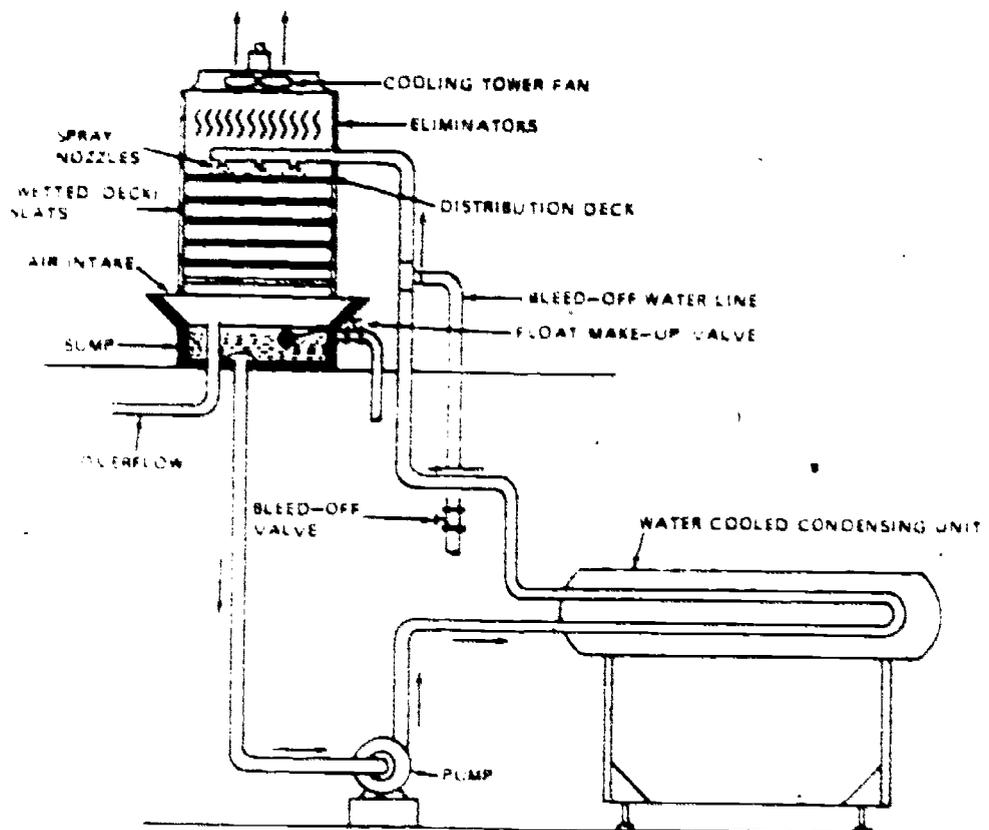

Figure 15. Schematic Diagram of a Mechanical Draft Cooling Tower
**FORCED DRAFT TOWERS.** Forced draft towers are equipped with solid metal panels on all four sides which are mounted on structural steel members with openings for flow of inlet and discharge air. Fans are located either at the inlet or at the outlet of spray chamber depending on manufacturer's particular design. Normally, forced draft towers are used on large refrigerating systems and are installed either indoors or outdoors in any convenient space. Indoor installations are near the outside wall to reduce duct work to and from the outside. Sizes of the ducts are never smaller than the openings of the tower. Restrictions in ducts and louvers, and sharp or square bends are avoided since they reduce the airflow. Forced draft towers are selected for the same wet bulb temperature. The amount of water circulated through the tower spray system is at the rate of 3 gallons per minute per ton of refrigeration required (see figure 15).
The spray nozzles are used to distribute and atomize the condenser water to the top of the tower. The distribution deck further distributes the water over the wetted deck. The wetted deck made of redwood or cypress slats slows the water flow aiding in evaporative cooling of the water. Louvers are used to direct the airflow through the tower. The cool water falls into the collection pan or sump. An overflow pipe is installed in the sump to reduce water spillage and can be used for bleed-off control. The bleed-off line may also be installed on the water line from the condenser to the spray nozzles. The float valve is installed in the water makeup line to start and stop the flow of makeup water. The water circulating pump supplies cool water from the cooling tower sump through the water-cooled condenser, to the spray nozzles (figure 15).